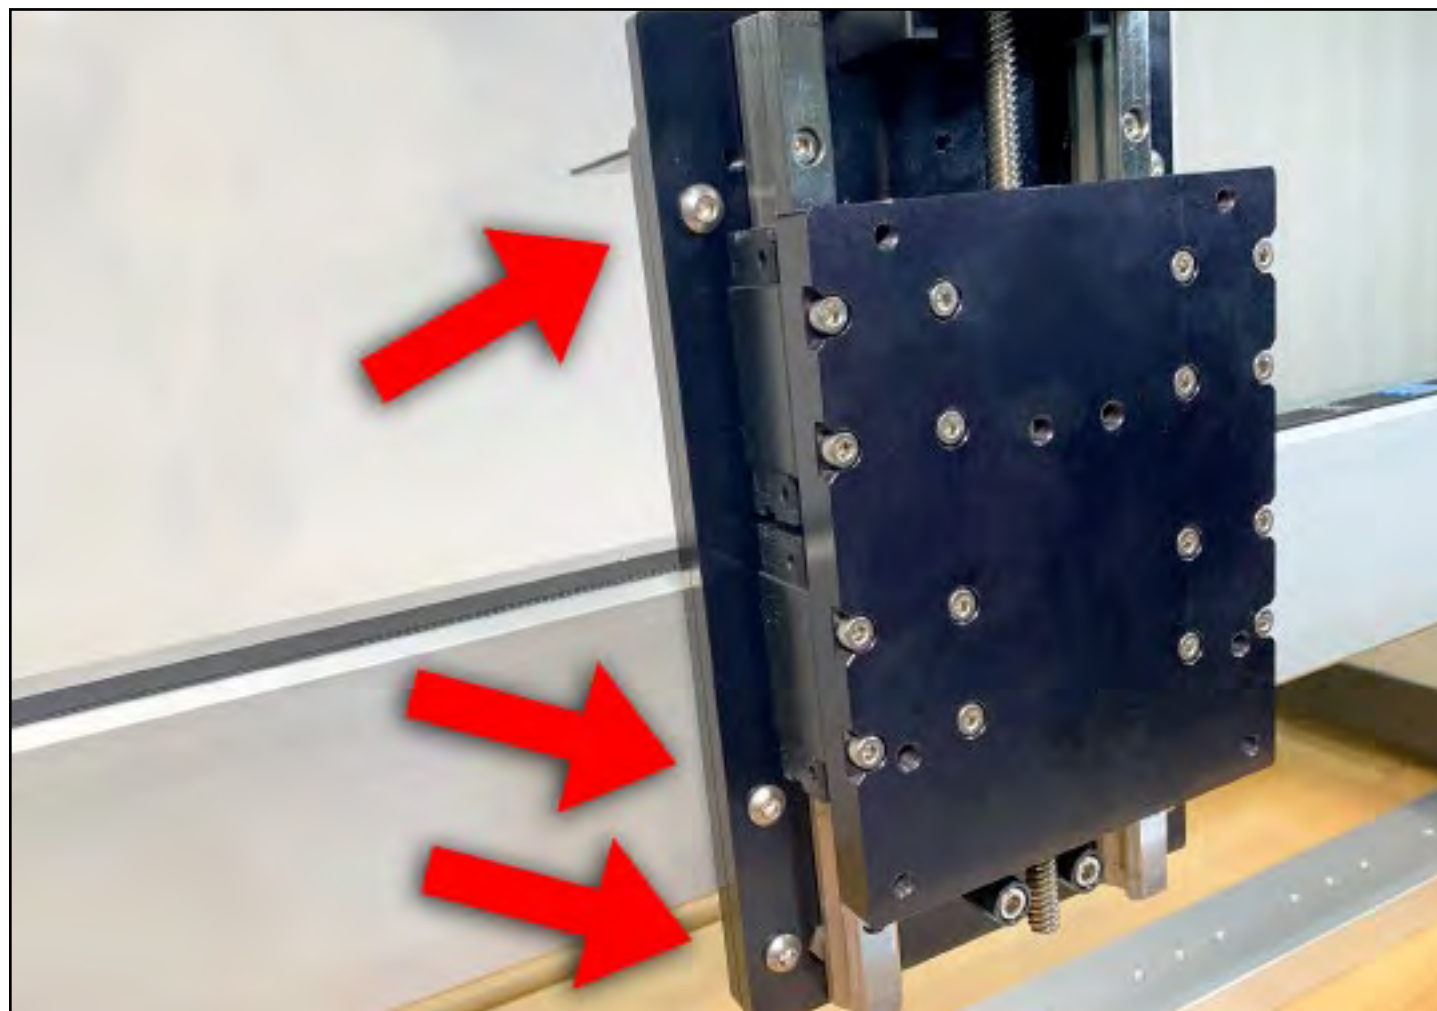

Figure 5-11
- Slide the Z-Axis plate on the front of the X/Z assembly until it is centered on the linear rails and all six M6 holes on the front of the assembly are accessible. See **Fig. 5-11**.
- Position the X/Z assembly over the FRONT of the X/Z carrier plate. See **Fig. 5-11**.
- Use a 4mm hex key and six (6) M6×12mm BHCS to secure the X/Z assembly to the carrier plate. Fully tighten.